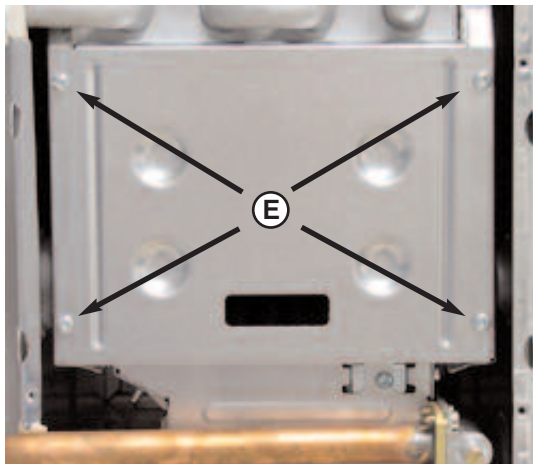

Fig. 18.19
2. Unscrew the four self tapping screws "E" to release the combustion chamber front panel and lift clear (see Fig. 18.19);